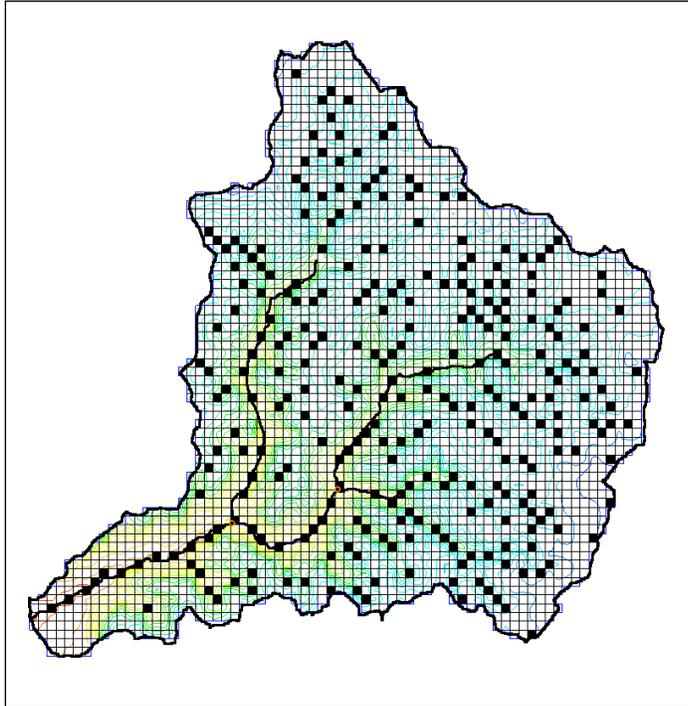

Figure 1 Grid with digital dams displayed
7. Select **OK** to close the *Display Options* dialog. The grid should appear similar to Figure 1. Note that the cells with digital dams are blacked out.